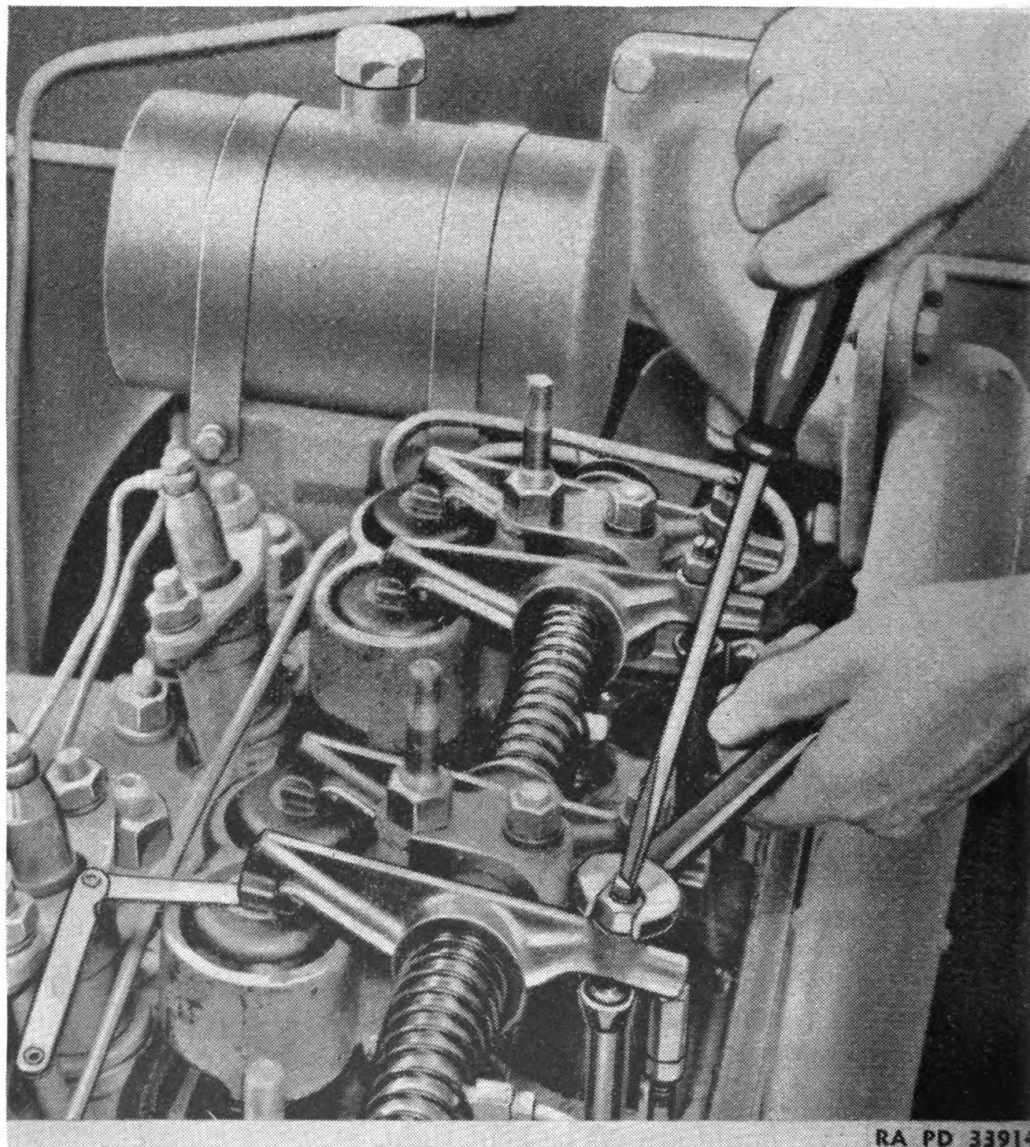

FIGURE 25.—Valve clearance adjustment.
(2) Nuts (8) should always be kept tight.
f. Valve clearance adjustment.—The valve clearance adjustment (fig. 25) should be made while the engine is hot; that is, after the engine has been stopped 10 minutes and before it has been stopped 20 minutes. If the adjustment is not completed during this 10-minute interval, start the engine and allow it to warm up. The exhaust valve clearance adjustment and the compression release clearance adjustment must be made or checked with the compression release lever in the “run” position.